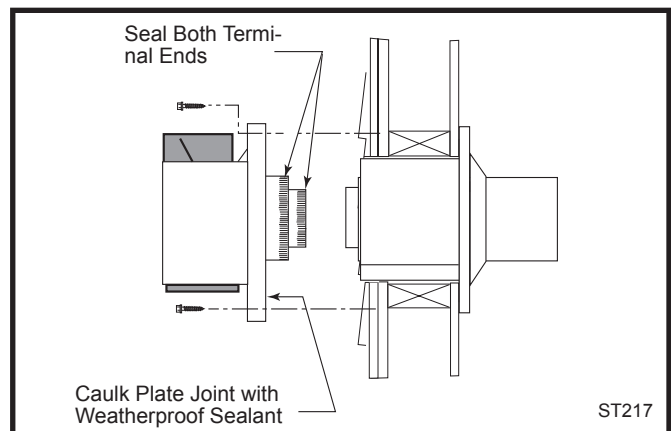

Fig. 29 Install the vent terminal.
10. **For both CFM and DuraVent Systems:** Install the vent terminal. (Fig. 29) Apply high temperature sealant one inch from the ends of the inner and outer collars. Guide the inner and outer vent termination collars into the adjacent pipes. Double check that the vent pipes overlap the collars by 2". Fasten the termination to the wall with the screws provided, and caulk the joint with weatherproof sealant.